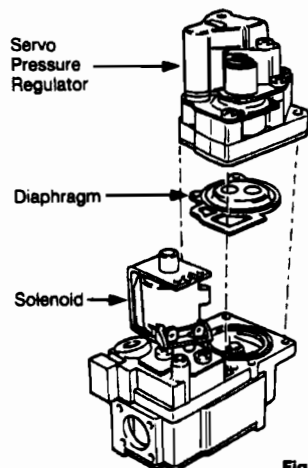

Fig. 35
8.12.9 Servo Pressure Regulator (fig 35)